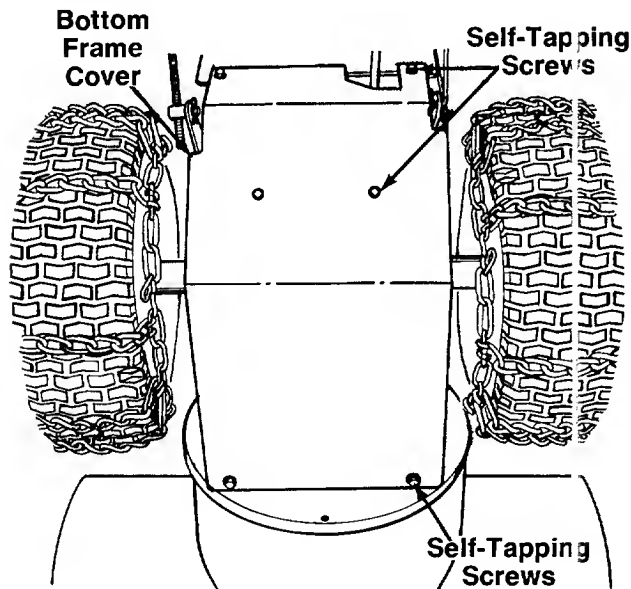

FIGURE 35.
3. Using a 3/8" wrench, remove the bottom frame cover by removing six self-tapping screws. See figure 35.